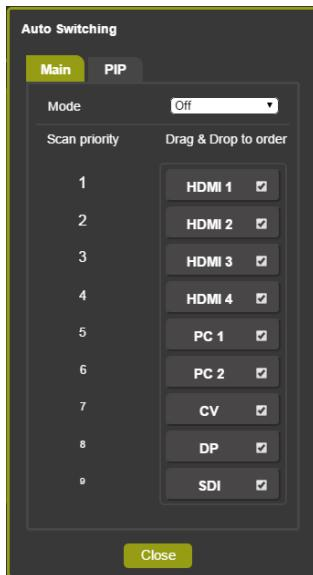

Figure 49: The Routing & Scaling Page – Auto Switching Window (Main Tab)
Click the Auto Switching button to open the Auto Switching window (see Figure 49). The Auto Switching window lets you set the Main and PiP scanning mode separately to:
When Scan mode is activated, the system scans the inputs from the highest to the lowest priority in search of a valid input signal for each the Main and PIP windows. The priority is ordered from the lowest input number (9) to the highest (1). For example, if PC 1 and HDMI 2 have a valid signal and auto switching is enabled, the **VP-774A** will scan through the inputs and select the HDMI 2 which is higher in the priority list (see Figure 49). Once the signal is no longer valid on HDMI 2, the **VP-774A** will scan for the next highest-priority valid signal.